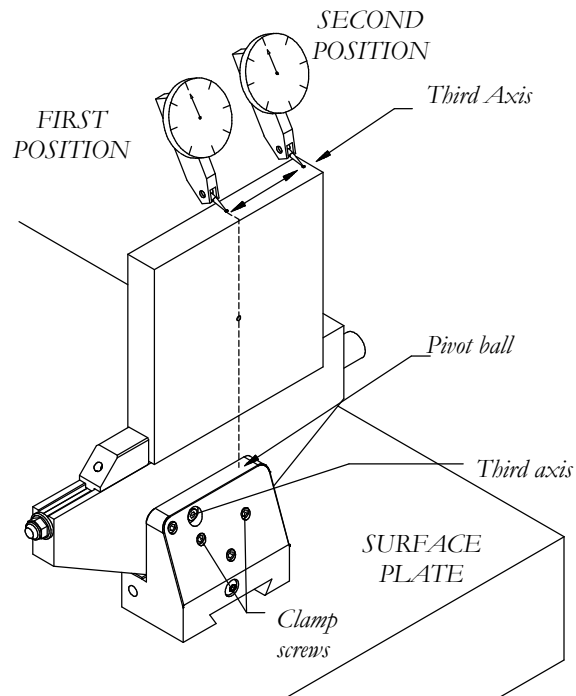

Figure 4
STEP 12. Remove the V08/TD21 and work piece off the MCD01 or PS01 and set back on the surface plate as shown in Fig. 4.
STEP 13. (A). Place the indicator ball on the work piece directly overhead of the pivot ball in the TD01 as shown in Fig. 4. **(B).** Zero the indicator. **(C).** Move the indicator ball to the fixed jaw end. **(D).** Adjust the cam until the indicator reads zero. The third-axis is trued.